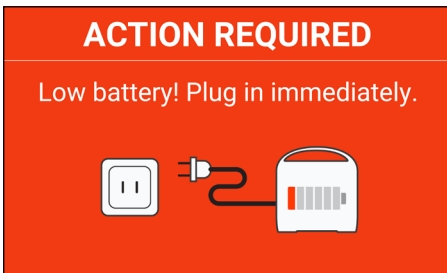
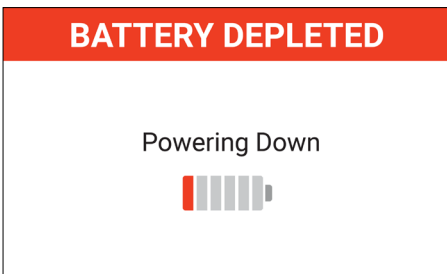

Figure 18. Low battery alert
Figure 19. Terminal battery shutdown alert
in therapy. (Fig. 18) An auditory alert will sound for three (3) minutes every hour while the alert is active. The low battery alert screen will be dismissed by either plugging the controller into AC power or by pressing discharge on the screen. If a terminal shutdown occurs (Fig. 19) the patient's information will be cleared from the system.